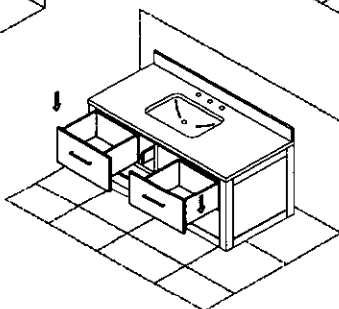

Figure 7
- Place the drawer onto the slide rails. See Figure 7.